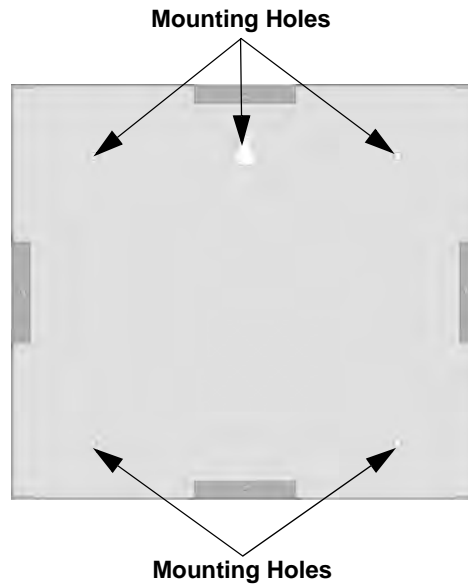

Figure 4.11 Backbox Mounting Holes
1. The backbox dimensions are 9 1/4" W x 8 3/8" H. The backbox can be mounted prior to the complete installation of the TR-RD2R using any of the mounting holes shown in Figure 4.11.